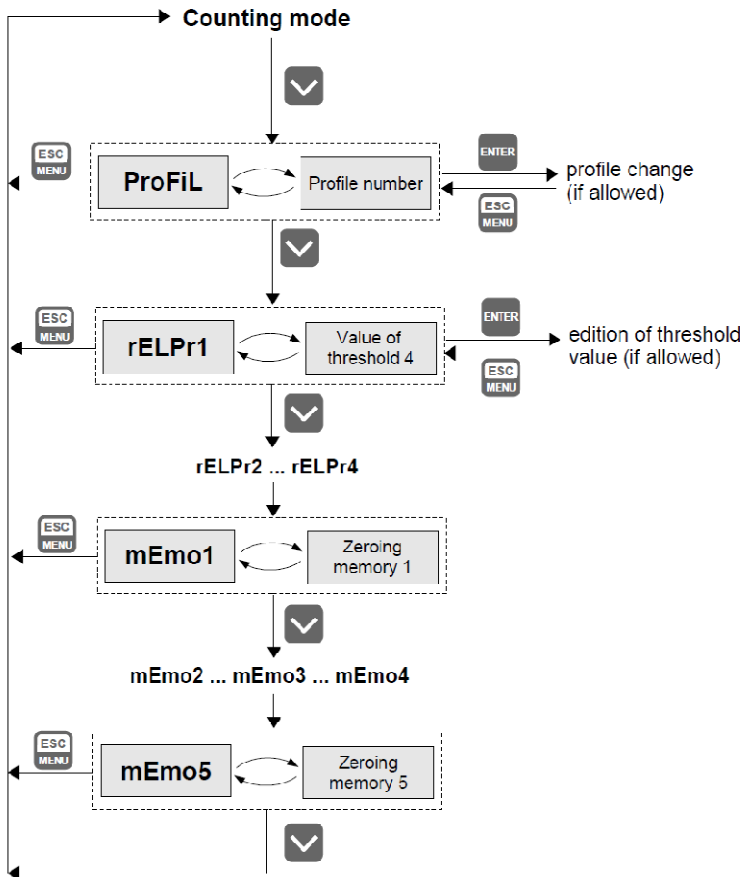

Figure 7.1 Functionality of quick view mode
- this options permits user (“on”) or prohibits (“oFF”) to modify the thresholds of the relays/LEDs R1 ÷ R4 without knowledge about user password. The functionality of quick view mode is showed in Figure 7.1.